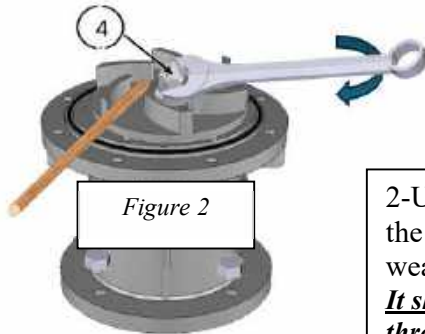

Figure 2
2- Unscrew the impeller lock nut (4), remove the impeller (7) and check the o-rings (6) for wear (Figures 2 and 3)